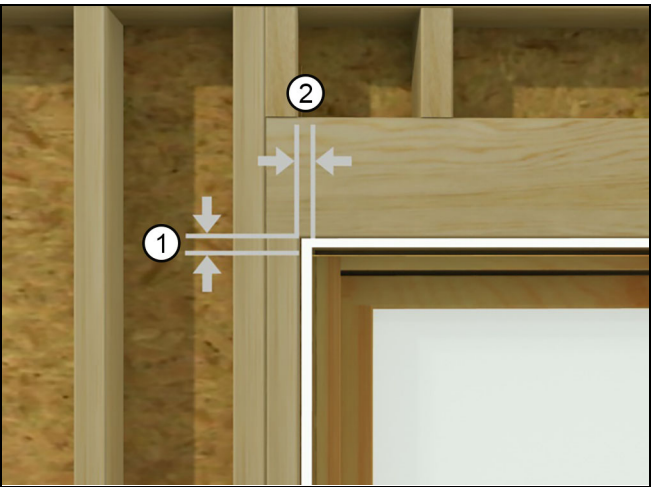

Figure 1
1. Rough openings (RO) should be 1/2" (13) higher and 1" (25) wider than the outside measurement of the frame (1/2" on each side of the frame). See Figure 1.